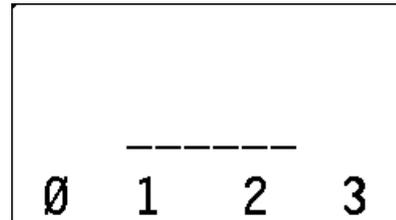

Figure 8: Password Entry Screen
1. From the Run screen press 🔒. If a password has been programmed, the Password Entry Screen (Figure 8) will be displayed.